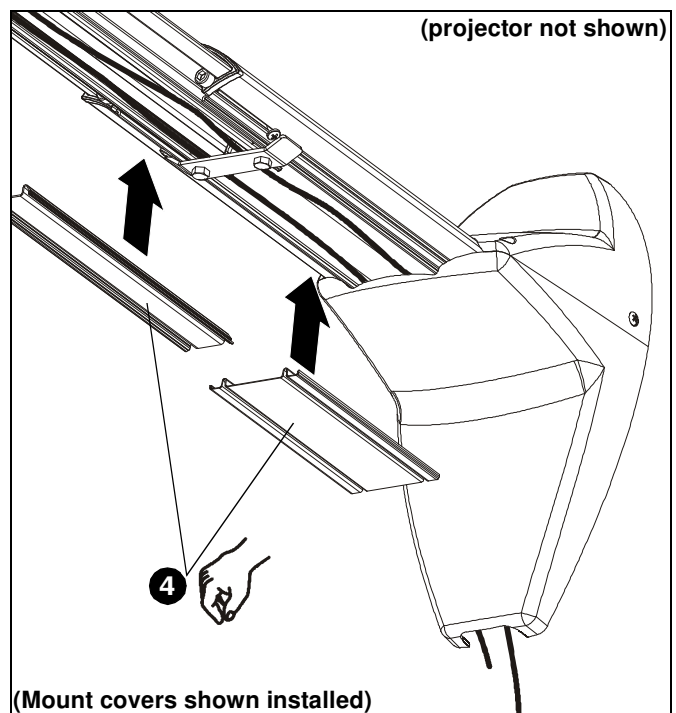

Figure 24
4. Replace removed cable management covers (if necessary). Insert one side of cover into groove and press firmly on the cover on the other side until it snaps into the other groove. (See Figure 24)